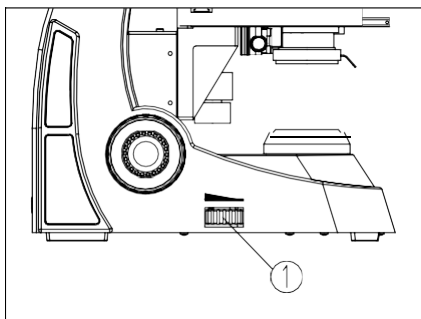

Fig.8
2. Adjust the dimmer knob ① until the desired illumination is reached. Rotate the dimmer knob clockwise to increase the brightness. Rotate the dimmer knob counterclockwise to reduce the brightness (see Fig. 8).